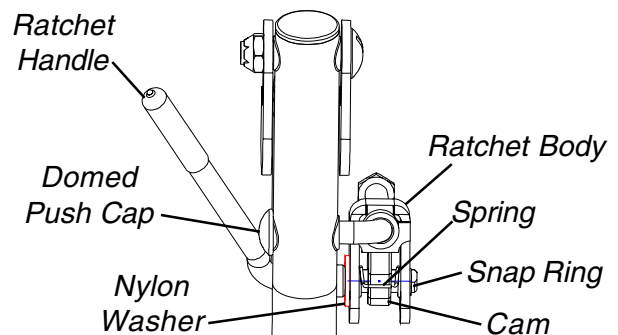

FIGURE 2 - INSTALLING NEW RATCHET KIT - ELEVATING LEGRESTS
Elevating Legrests (Figure 2)
4. Insert the cam into the ratchet body against the spring ensuring that the teeth on the cam are facing up as shown in DETAIL "A", FIGURE 2.
6. While holding the cam in place, install the ratchet handle through the ratchet body, spring, cam, spring and ratchet body as shown in DETAIL "B", FIGURE 2.
9. Perform one (1) of the following:
- B. For HEMI WHEELCHAIR with Elevating Legrests, install one (1) spacer on the ratchet bar.